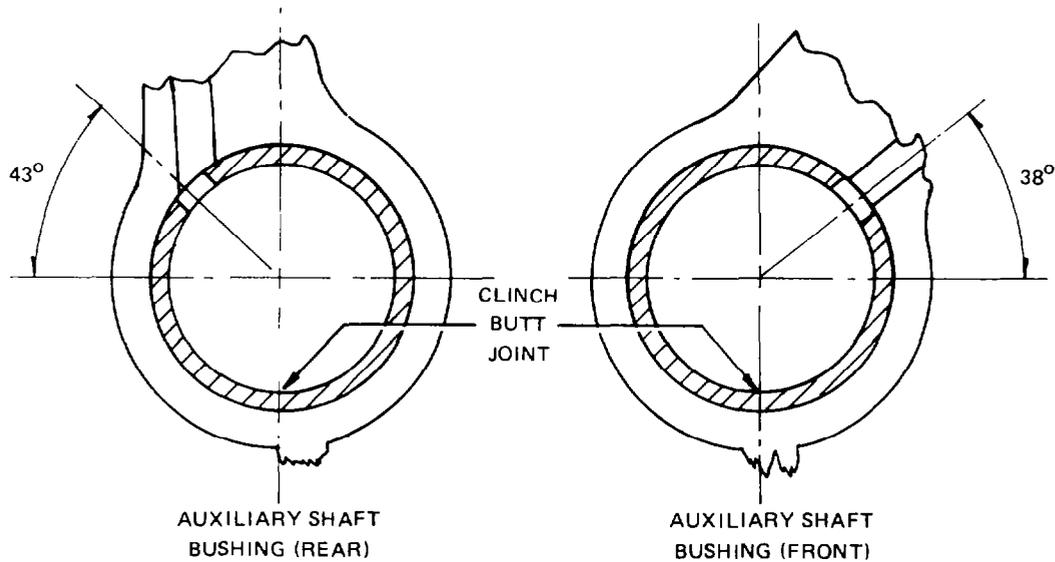

Fig. 63 — Oil Hole Alignment
- b. Use tool J-21428 to install the bearing in the block, ensure that the oil hole and clinch-butt joint are correctly positioned (see fig. 63).
- c. Install the front bearing using tool J-21428 ensuring that the oil hole and clinch-butt joint are correctly positioned as shown in fig. 63.